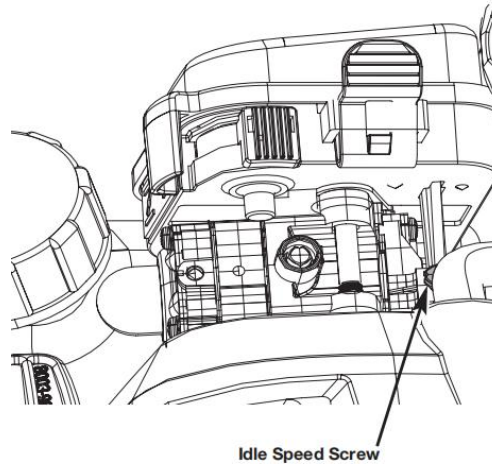

Fig. 13
- 2) Let the engine idle. If the engine stops, increase the idle speed. Use a small Phillips screwdriver to turn the idle speed screw clockwise, 1/8 of a turn at a time, until the engine idles smoothly (Fig. 13).